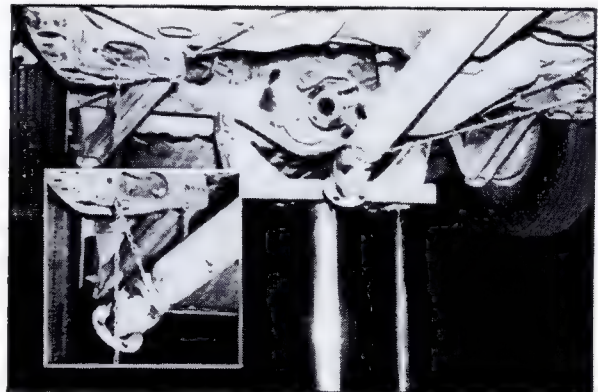

Fig. 4-39 Propeller Shaft Support Chain
3. Install chain to support propeller shaft as shown in Fig. 4-39. Disconnect propeller shaft from differential and secure with chain.
2. Install chain to support propeller shaft as shown in Fig. 4-39. Disconnect propeller shaft from differential and secure with chain.